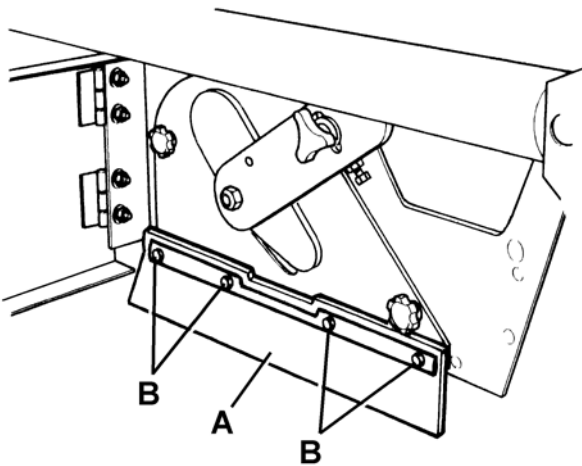
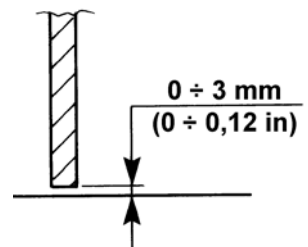

Figure 19
Figure 21
6. Check the side skirts (A, Fig. 19) for integrity.
7. Check that the distance from the floor of the side skirts (A, Fig. 19) is within 0 - 0.12 in (0 - 3 mm) (see Fig. 21).
If necessary, loosen the screws (B, Fig. 19) and adjust the skirt position. Then tighten the screws (B).